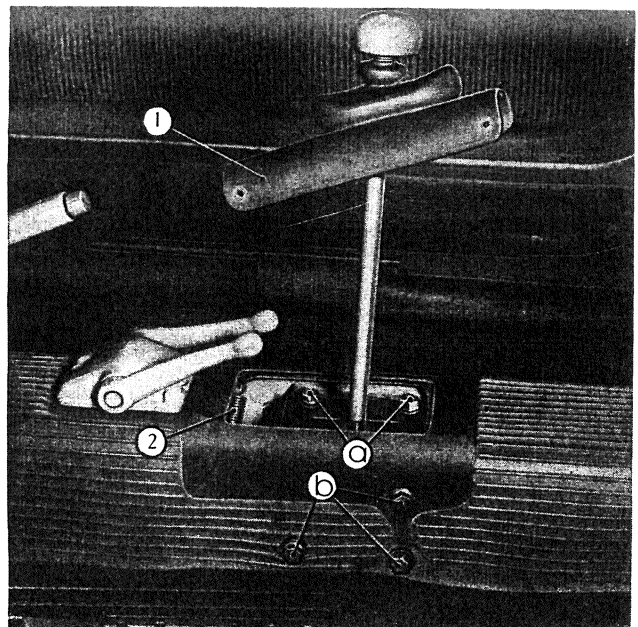
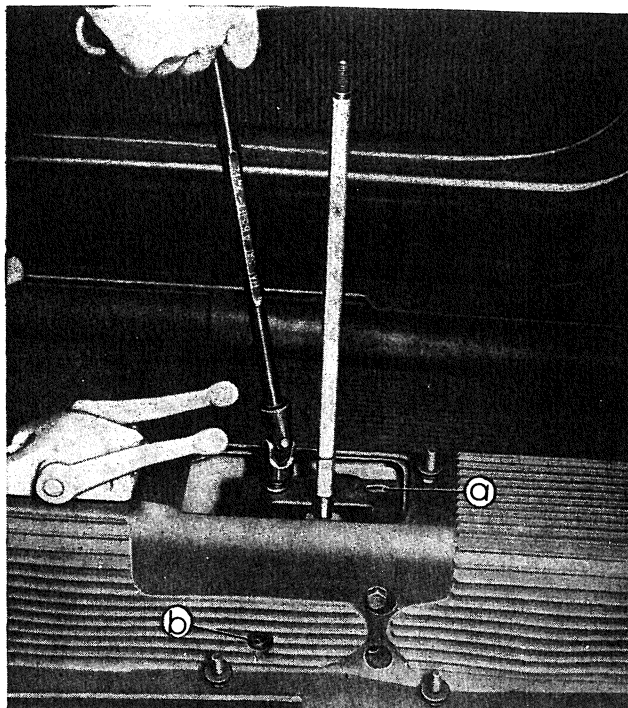
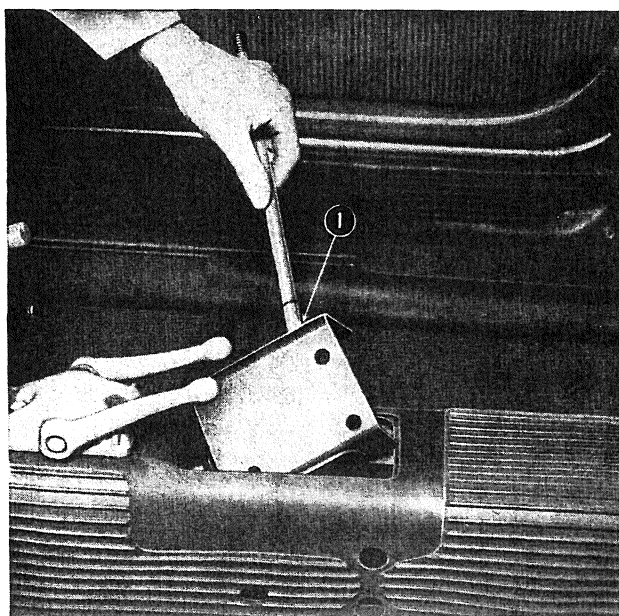

Fig. 249 - Gearshift control.
Fig. 252 - Removal of gearshift control assembly.
Fig. 253 - Removal of gearshift control assembly.
— Undo the screws fixing cover (1, fig. 249) to tunnel and raise cover along gearshift lever stem.
— Slacken the lever support fixing screws, two upper and three lateral (fig. 249); as may be seen in fig. 252, slots have been machined in support to allow its longitudinal displacement.
- Unhook the gearshift control rod retracting spring (2, fig. 249).
— Undo the five screws fixing the hand lever support, two upper and three lateral (fig. 252) and disinsert the assembly from its seat (fig. 253).